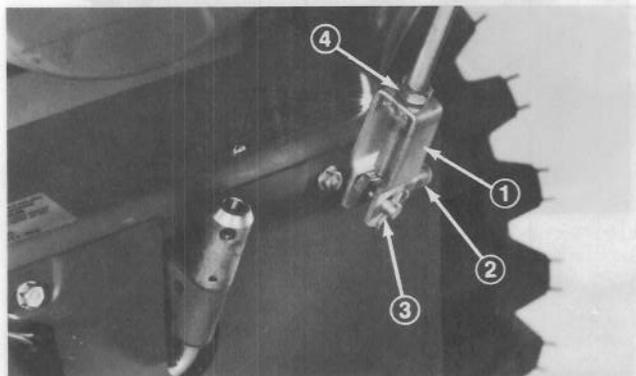

Figure 7
2. Rotate clevis (Fig. 7) on end of control rod until holes in clevis line up with hole in bent rod; insert pin and check adjustment. Secure clevis and bent rod together with clevis pin and cotter pin (Fig. 7).
3. Bottom jam nut firmly onto clevis (Fig. 7).